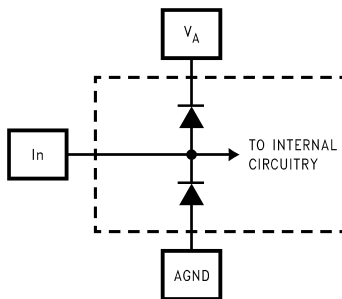

Figure 2.
- (1) The inputs are protected as shown below. Input voltage magnitude up to 300 mV beyond the supply rails will not damage this device. However, errors in the A/D conversion can occur if the input goes beyond the limits given in these tables. See Figure 2
- (2) Typical figures are at T_J = 25°C, and represent most likely parametric norms.
- (3) Test limits are specified to TI's AOQL (Average Outgoing Quality Level). Performance is ensured only at V_{REF} = 1.0V and a clock duty cycle of 50%. The limits for V_{REF} and clock duty cycle specify the range over which reasonable performance is expected. Tests are performed and limits specified with clock low and high levels of 0.3V and V_D – 0.3V, respectively.
- (2) Typical figures are at $T_J = 25^\circ C$, and represent most likely parametric norms.
- (3) Test limits are specified to TI's AOQL (Average Outgoing Quality Level). Performance is ensured only at $V_{REF} = 1.0V$ and a clock duty cycle of 50%. The limits for V_{REF} and clock duty cycle specify the range over which reasonable performance is expected. Tests are performed and limits specified with clock low and high levels of 0.3V and $V_D - 0.3V$, respectively.